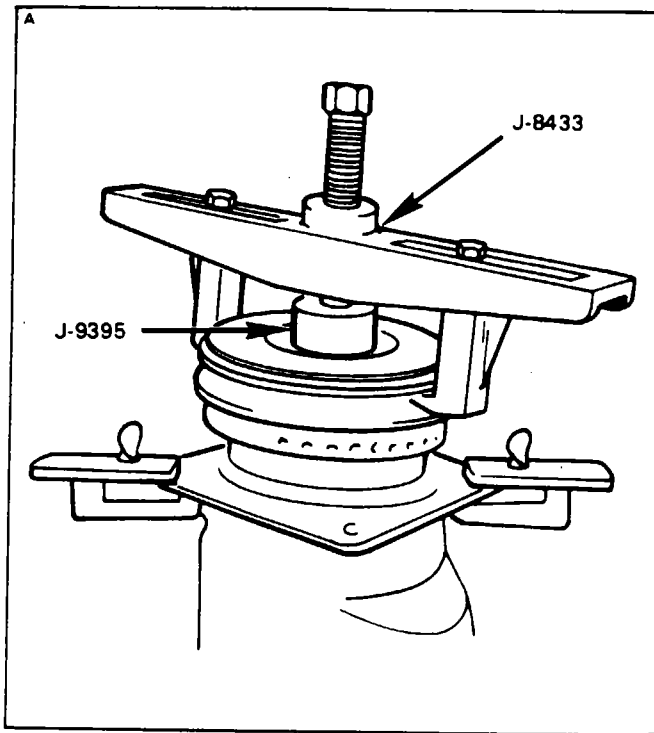

Figure 21-32. Removing Pulley and Drive Plate
5. Remove pulley with puller J-8433. (Refer to Figure 21-32.)